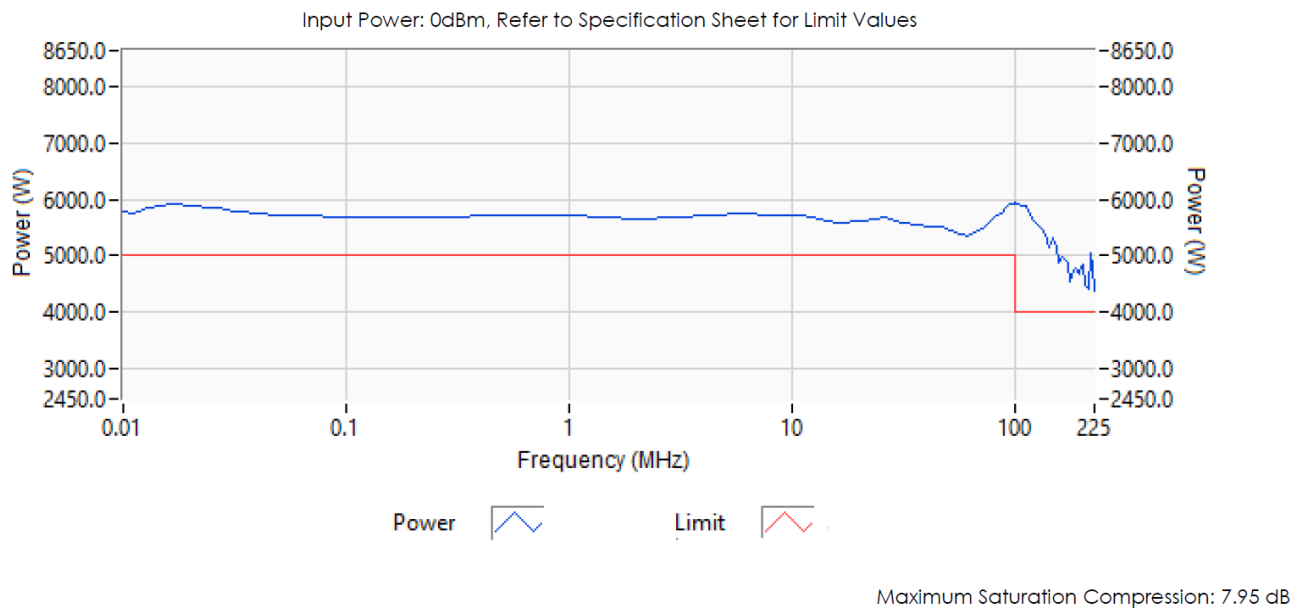
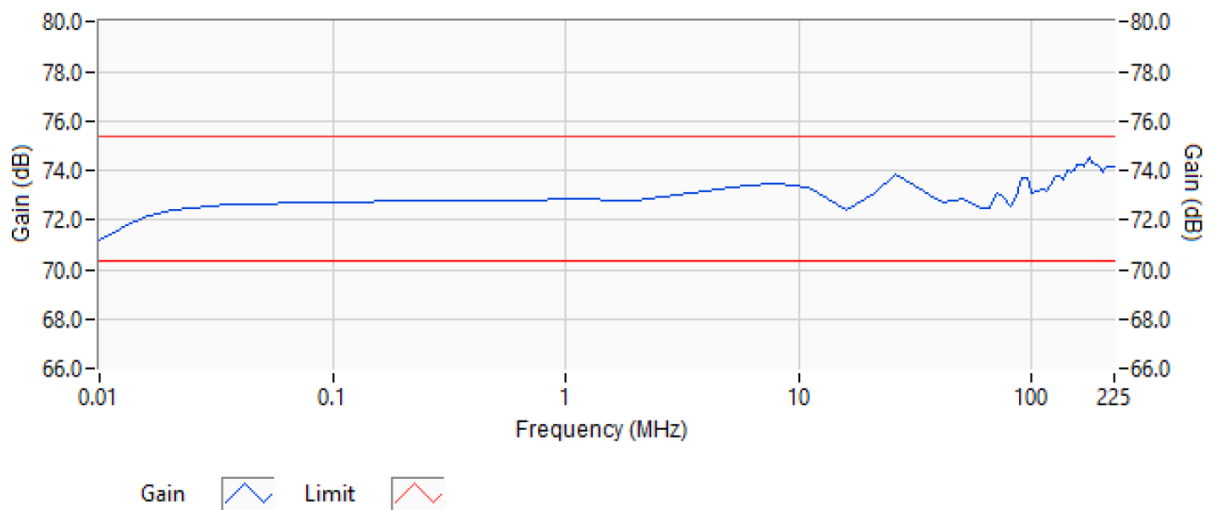

Figure 4-1. Typical Response at 0 dBm Input
Figure 4-2. Typical Response at -20 dBm Input
1. The Model 5000A225B's typical gain response at 0 dBm input and -20 dBm input is shown in Figures 4-1 and 4-2. The actual gain may vary considerably from that shown in Figure 4-1 but should be ≥ 67 dB (0.01-100MHz) and ≥ 65.5 dB (100MHz-225MHz). Figure 4-2 should be ≥ 70 dB (0.01-100MHz) and ≥ 68.5 dB (100MHz-225MHz).